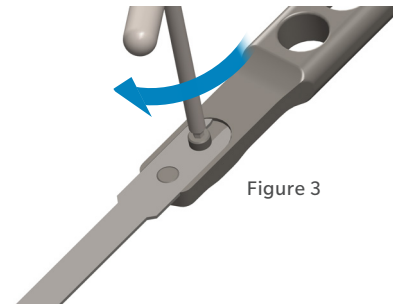

Figure 3
2. Tighten the locking screw (3) of the handle (1) to fasten the chisel (2) with a hex screwdriver or socket wrench (79.15.84) as shown on Figure 3.